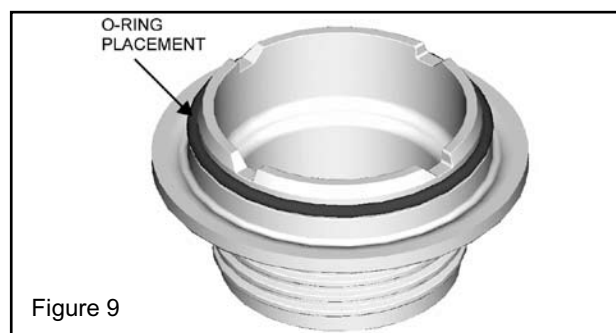

Figure 9
2. The valve adapter o-ring sits on the first step on the adapter. See Figure 9.